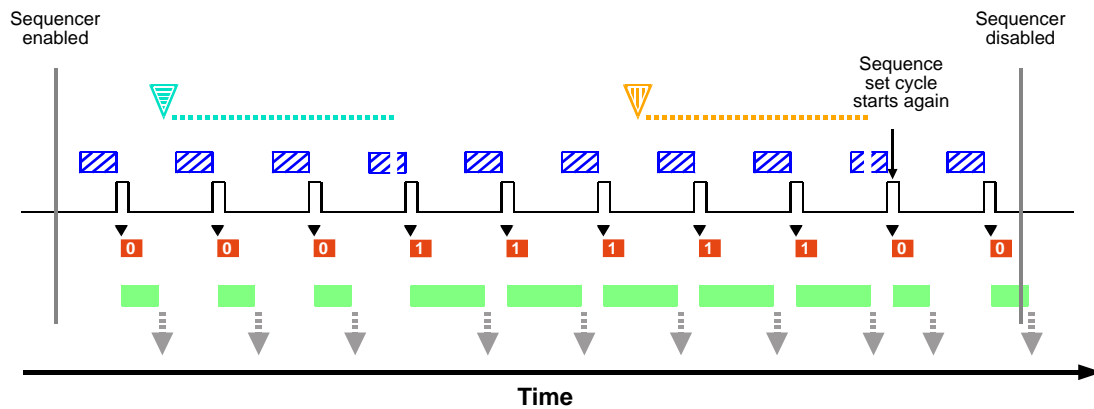

Fig. 121: Sequencer in Controlled Sequence Advance Mode with the SequenceControlSource Set to Disabled and Asynchronous Advance and Restart
The following use case (see also Figure 121) illustrates the operation of the sequencer in controlled sequence advance mode with the SequenceControlSource set to Disabled. Sequence set advance proceeds in ascending sequence set index numbers subject to asynchronous advance commands. After one sequence set cycle is complete, another one starts. Sequence set cycle restarts are subject to asynchronous restart commands.
- When the AsyncAdvance command becomes effective, the camera happens to be in "waiting for frame start trigger" status. The parameter values of the next sequence set, i.e. of sequence set 1, are loaded into the active set. Note that the camera briefly exits the "waiting for frame start trigger" status while the parameter values of sequence set 1 are loaded into the active set (see also Figure 121).
- When the AsyncRestart command becomes effective, the camera happens to be in "waiting for frame start trigger" status. The parameter values of sequence set 0 are loaded into the active set. Note that the camera briefly exits the "waiting for frame start trigger" status while the parameter values of sequence set 1 are loaded into the active set (see also Figure 121).